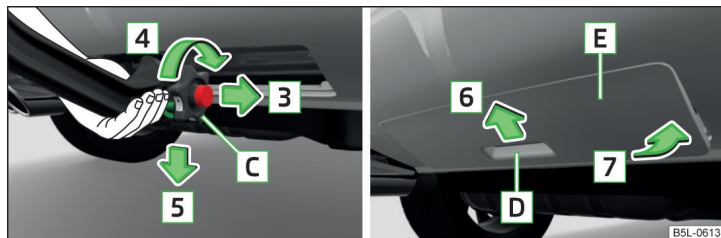

Fig. 150 Removing the tow bar/placing the cover on the rear bumper
- Grip the tow bar **from below** and with the other hand pull the handwheel **C** in the direction of the arrow **3** » Fig. 150.
- Grip the cover on the rear bumper **E** » Fig. 150 at the handle **D** and position in the direction of the arrow **6** on the checkmark underneath the upper edge of the bumper.